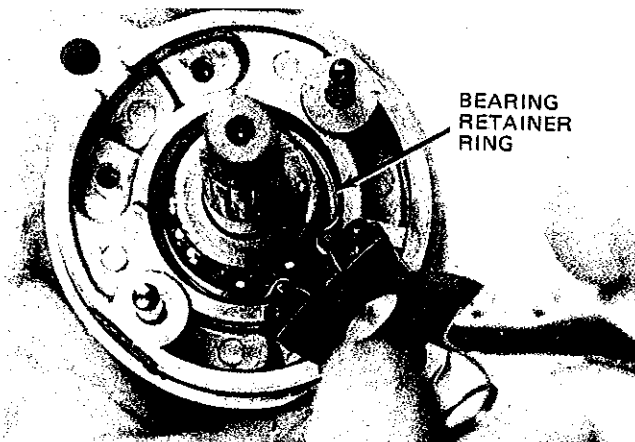

Figure 9. Remove bearing retainer ring.
- J. Use snap-ring pliers to remove large bearing retainer ring from the cover assembly (Figure 9).